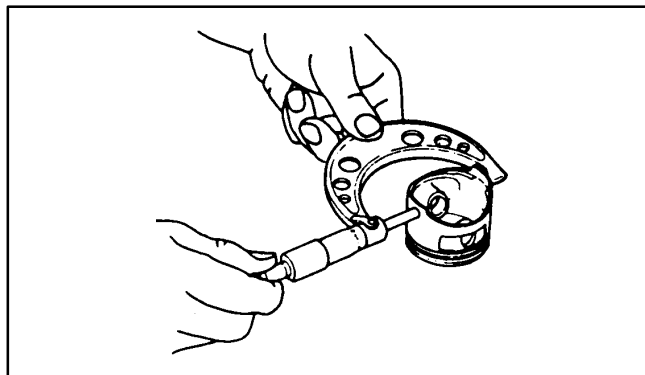

FIGURE 9-25. PISTON SKIRT MEASUREMENT
1. Measure the piston skirt O.D. with an outside micrometer (Figure 9-25).